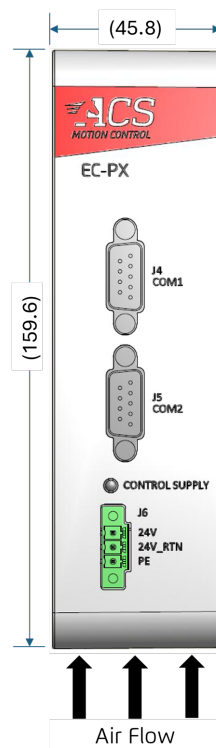

Figure 3-1. Hardware Version A Dimensions
- The EC-PX has dimensions of 159.6 x 124.5 x 45.8 mm, see Figure 3-1